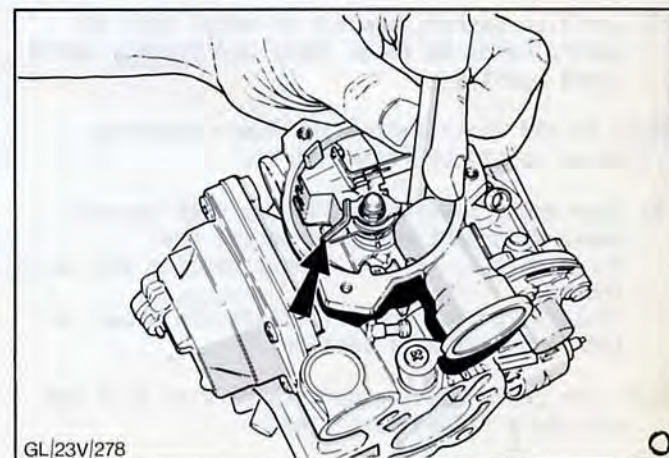

Fig.71. Pull down lever bent back to ensure that correct fast idle position can be achieved.
- i) Position a twist drill in the location shown in Fig.71, and using a small pair of pliers bend back pull down operating lever to a position also shown in Fig.71. This sub-operation is necessary to ensure that the lever does not restrict movement of vacuum piston which could make it impossible to set choke in the correct pull down/fast idle position. The drill is required to ensure linkage is not damaged when the pull down lever is bent back. Once lever is bent back remove twist drill.